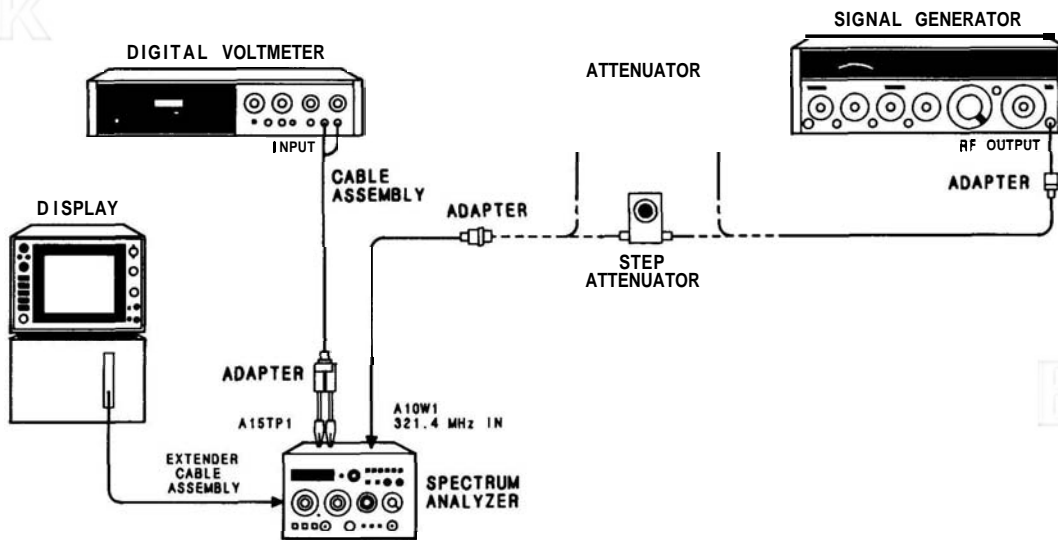

FIGURE 5-10. STEP GAIN ADJUSTMENT TEST SETUP
2. Connect equipment as shown in Figure 5-10. Connect signal generator tuned to 321.4 MHz with approximately  $-30$  dBm output to one side of a 1 dB/step attenuator. Connect step attenuator output to A10W1 through adapter. Tune signal generator frequency for peak amplitude on display.